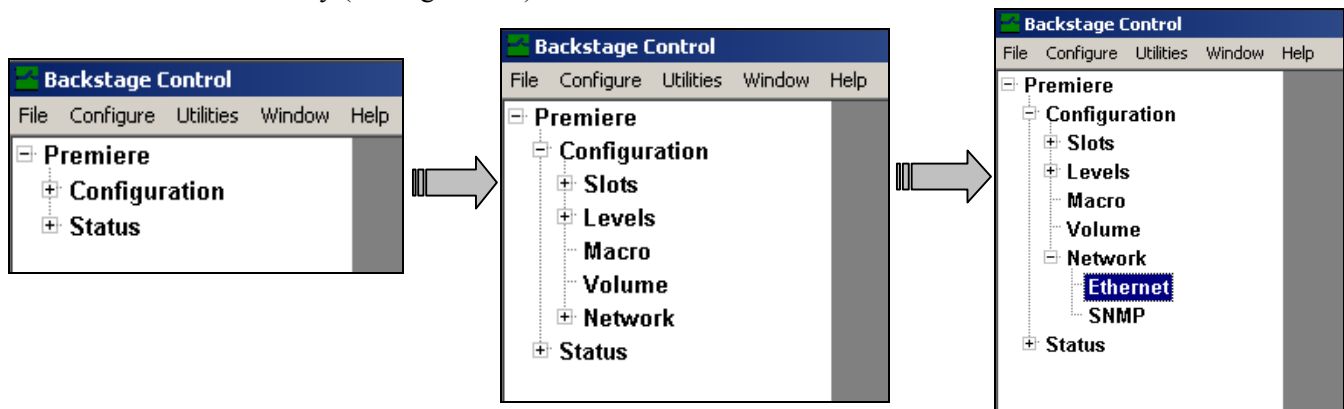

FIGURE 109: Accessing The Ethernet Directory
- 1) In the tree window, access the Ethernet directory by expanding the Premiere, Configuration, and Network root directories by clicking on the x-box (☒) adjacent to each directory (see Figure 109).